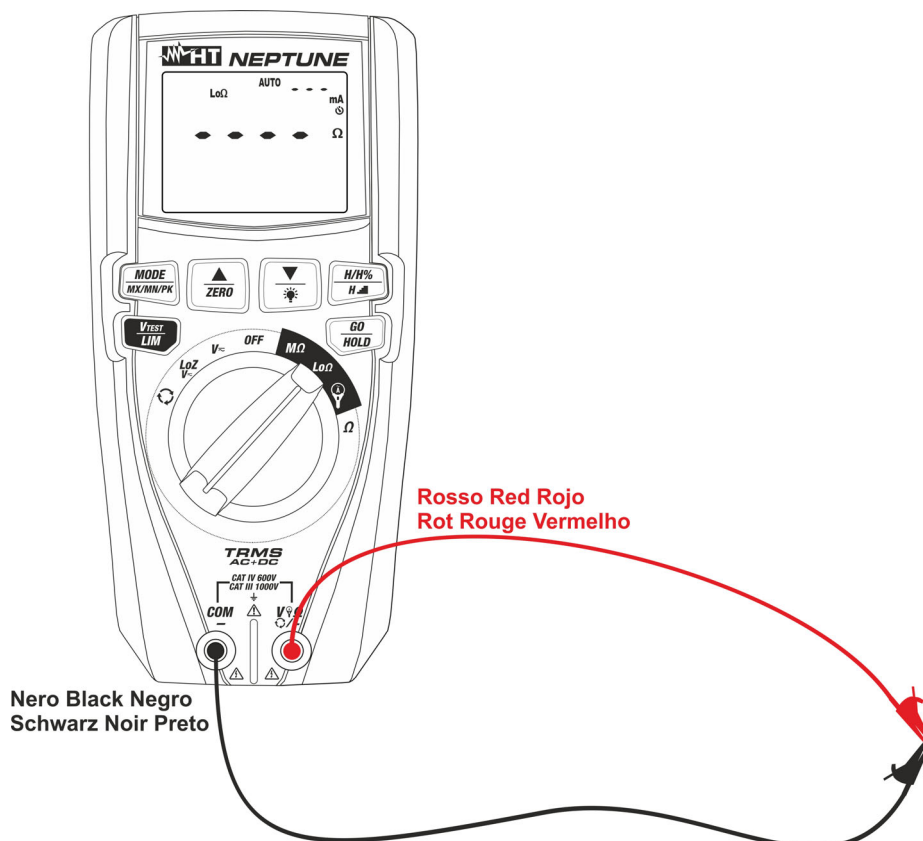

Fig. 32: Connection of the cables in compensation function
2. Insert the test cables into input terminal **V $\Omega$ +/+** and **COM/-**, connect the alligator clips and short-circuit the cable ends between each other (see Fig. 32).